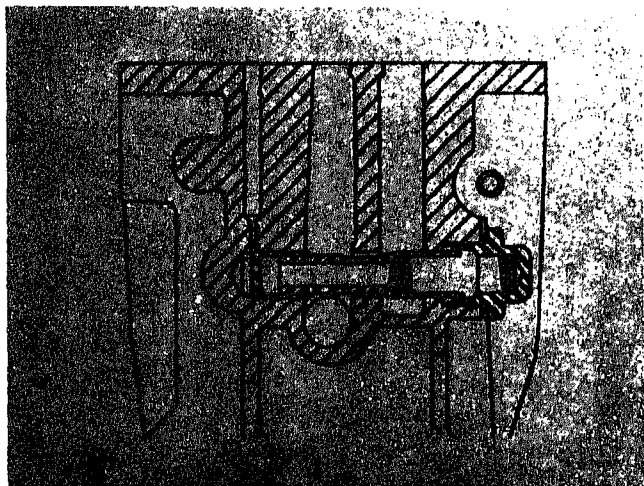

Fig. 7-7-1. Lubricating oil pressure regulator by-pass — cold-start position
3. For operation of pressure regulator, see Figs. 7-7-1, 7-7-2, 7-7-3.